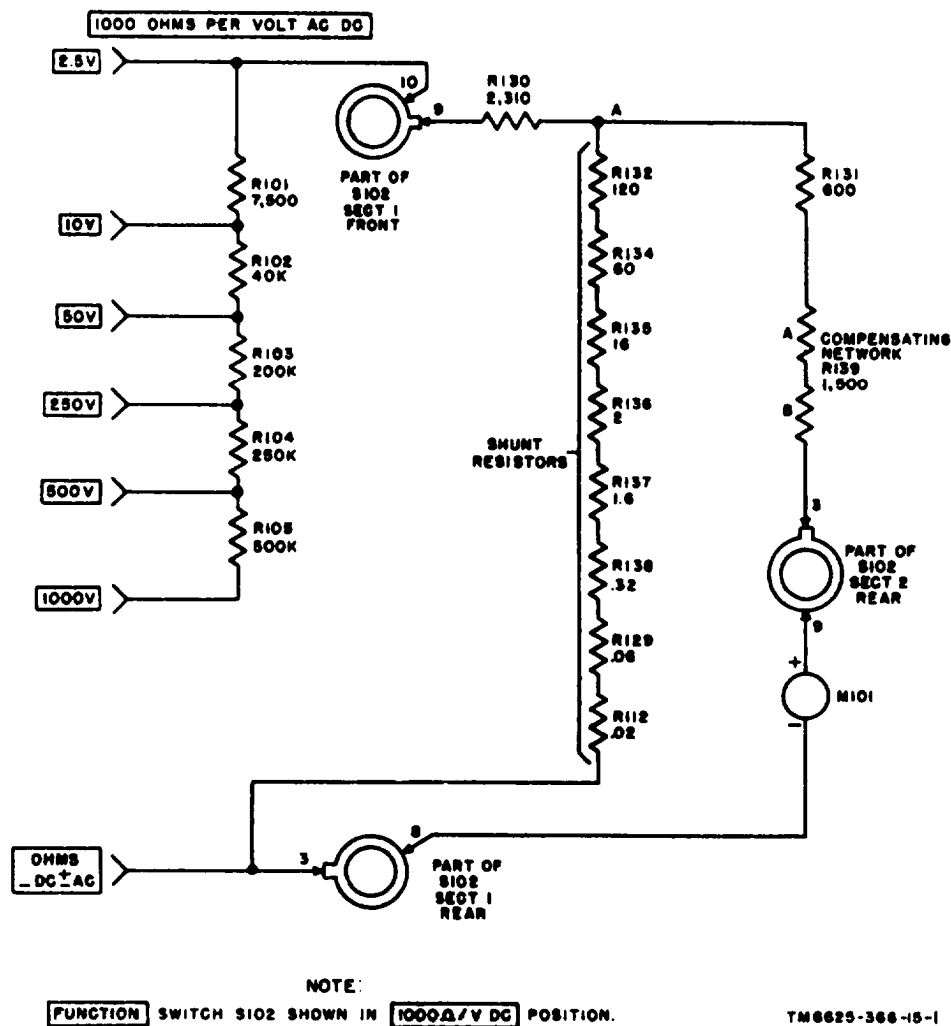

Figure 4-2. DC voltmeter circuit (1,000 ohms per volt), simplified schematic diagram.
(fig. 4-2)
- (1) Current flows from OHMS — DC \pm AC jack to the point of division (B, fig. 4-2).
- (2) At point B, the current divides, and flows through the shunt network consisting of resistors R112, R129, R138, R137, R136, R135, R134, and R132, and also through the meter network consisting of meter M101, switch S102, resistors R139 and R131.
- (3) At full scale deflection, the shunt resistors provide a current path for 950 microampere around meter M101: only 50 microampere will pass through the meter.
- (4) The two currents meet at point A (fig. 4-2) and, since FUNCTION switch S102 is in the 1000V/ VDC position, the current passes through resistor RI 30 and switch S102.
- (5) The current now flows through series-connected multiplier resistors R101, R102, R103, R104, and R105, and onto the 1000V jack.